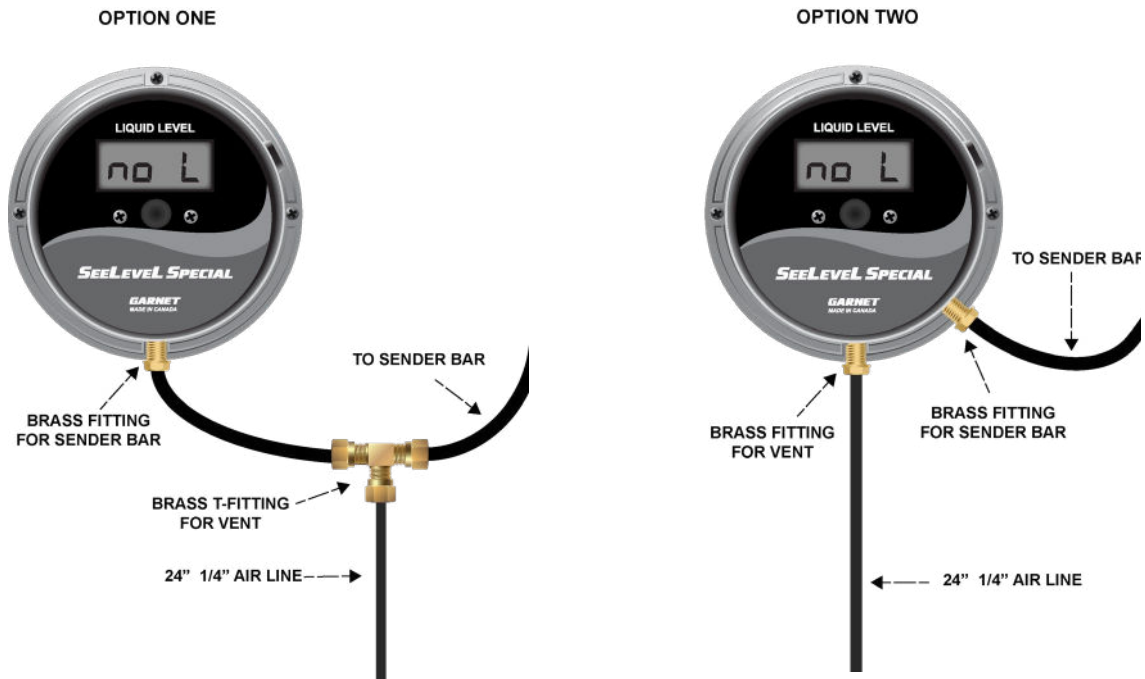

Figure 3.3.5a Airline Hose Options
2. If a T-fitting is not practical, install a fitting into the bottom of the display enclosure and route the 2 feet of 1/4" airline hose from there. (See Figure 3.3.5a)